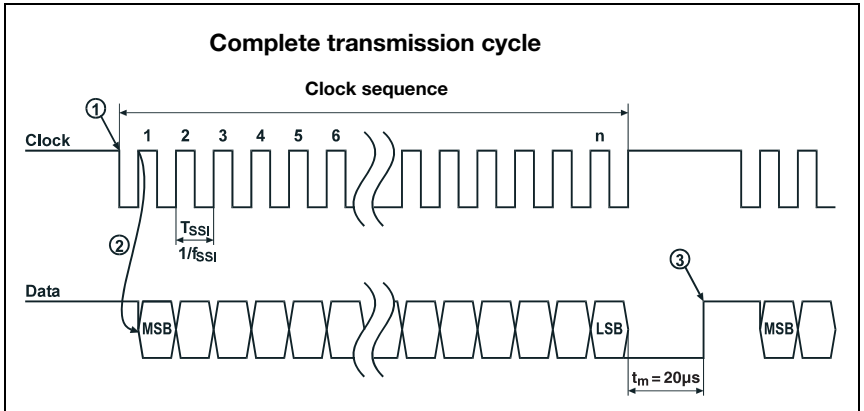

Figure 9.1: SSI data transmission sequence diagram
In the quiescent state, both the clock line as well as the data line are at HIGH level. At the first HIGH-LOW edge (point ① in figure 9.1) the data in the internal register are stored. This ensures that the data are not changed during serial transfer of the value.
When the next clock signal change from LOW to HIGH level (point ② in figure 9.1) occurs transmission of the position value begins with the most significant bit (MSB). With each subsequent change of the clock signal from LOW to HIGH level, the next least-significant bit is transmitted on the data line. After the least significant bit (LSB) has been output, the clock signal switches from LOW to HIGH for one last time and the data line switches to LOW level (end of transmission).
A monoflop retriggered by the clock signal determines the time span before the SSI interface can be called for the next transmission. This results in the minimum pause time between two successive clock cycles. If time  $t_m = 20\mu\text{s}$  has elapsed, the data line is returned to the quiescent level (HIGH) (point ③ in figure 9.1). This signals completed data communication and that the device is again ready for transmission.